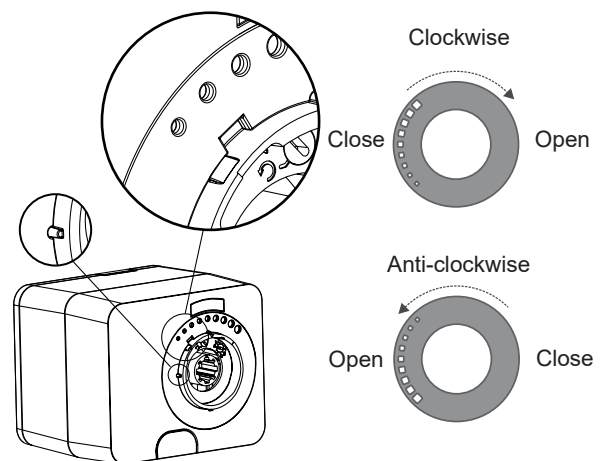

Figure C-5: Actuator scale plate
2. Place a small flat head screwdriver into the square notch on the inner edge of the scale plate, carefully prise it up and lift away from the actuator housing. Refer to Figure C-5.
3. Re-position the scale plate to suit the selected orientation of the valve, remembering to flip it over when changing the valve rotation. Ensure the scale plate is correctly located using the 4 small nibs on the actuator body. Refer to Figure C-5.